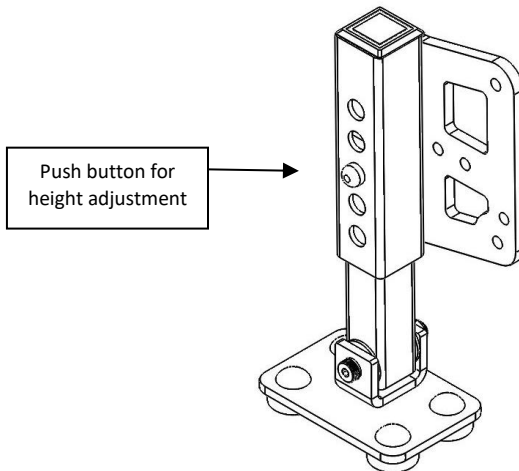

Figure 6.1
- Each foot of the All Terrain Landing Gear can be adjusted to different heights by the adjustment button (figure 6.1). Each Landing Gear can be adjusted independently to level the steps on uneven terrain. The feet do not need to sit perfectly flat on the ground.